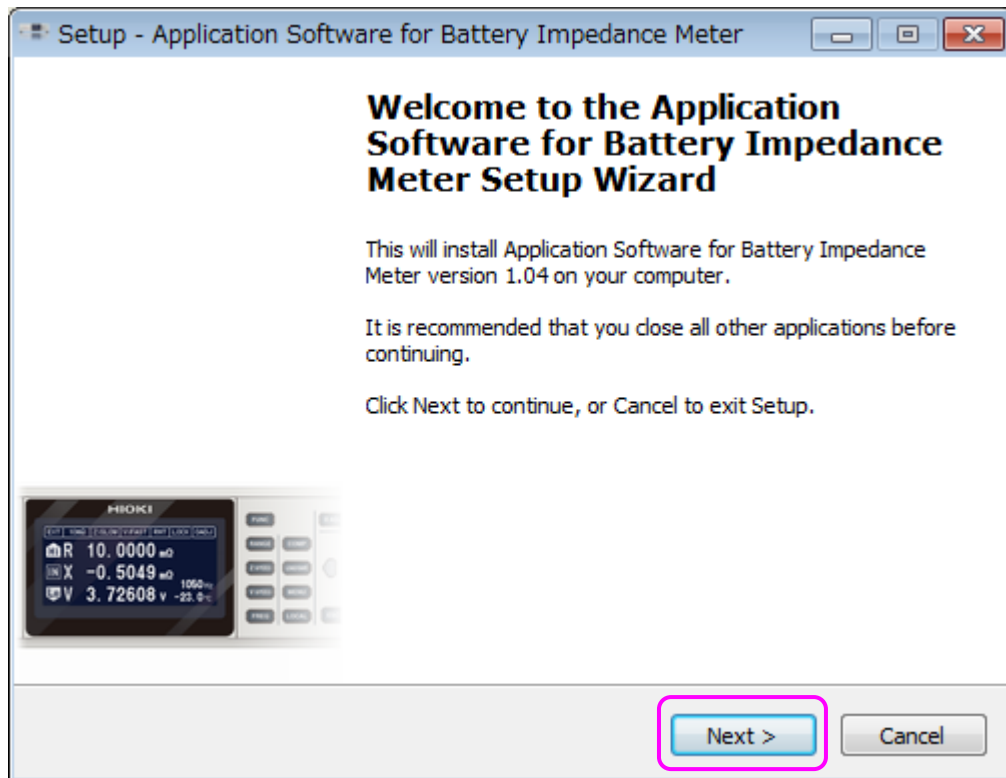

Fig 2-4
Step2 : Click [Next]. (Fig 2-4)